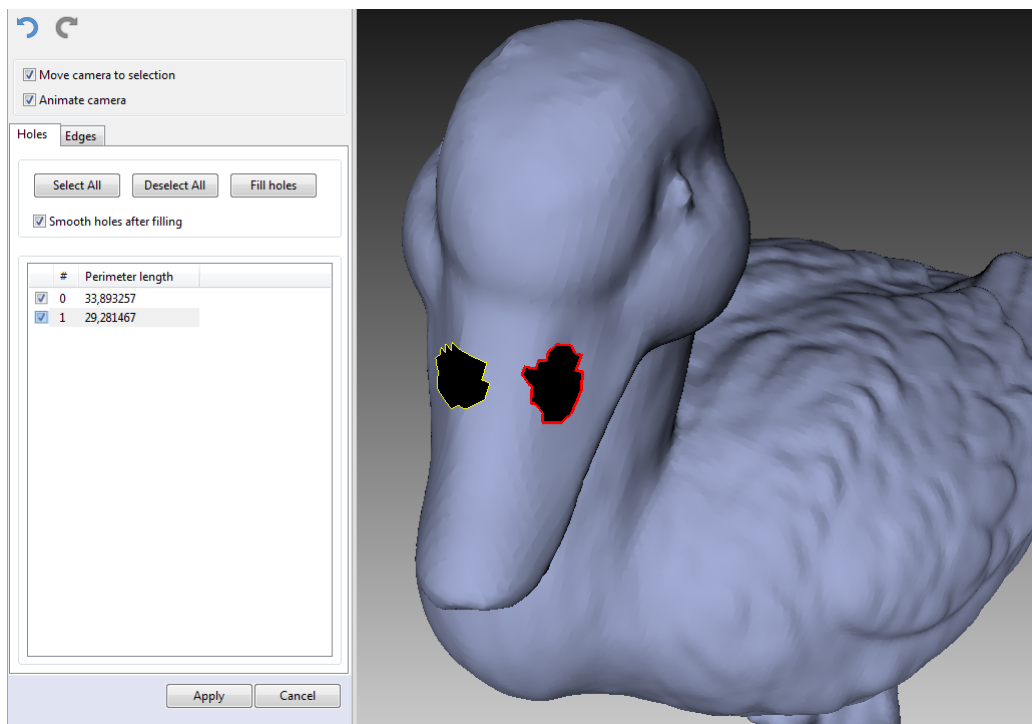

Figure 8.38: Two holes marked for correction.
- Mark the checkbox next to each one you wish to correct. These edges will be highlighted in red in the *3D View* window (see Figure 8.38).